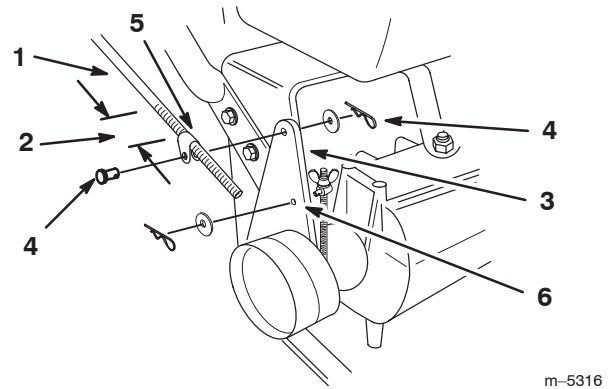

Figure 8
1. Make sure the rod fittings are equal distance onto each control rod. The rod fittings should be approximately 3-1/2 inch (89 mm) from the start of the threads (Fig. 8).
2. Slide clevis pins through rod fittings and mounting holes in idler brackets (from outside) (Fig. 8). Secure with washers and hairpin coppers (Fig. 8).